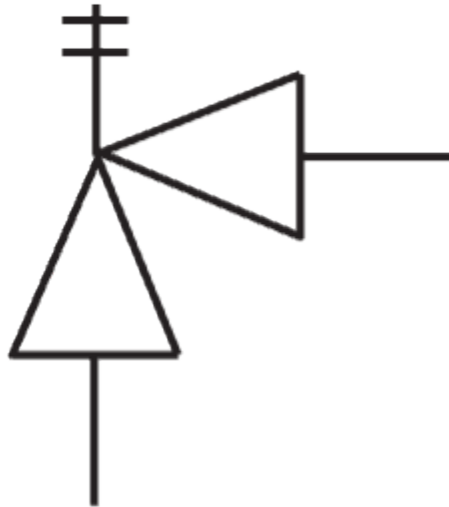

Figure 14 Illustration for Question 19
19. The symbol in Figure 14 is a